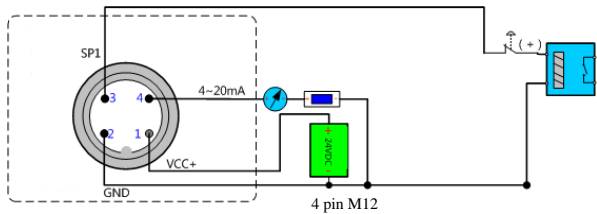

Figure 5-2 1 channel PNP+4~20mA analog signal output (4-wire system)
a) PNP output wiring diagram is shown in Figure 5-2, 5-3, 5-4